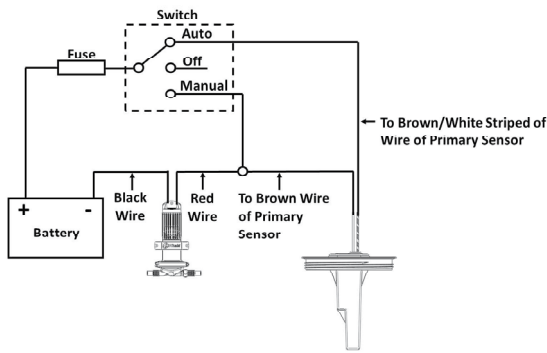
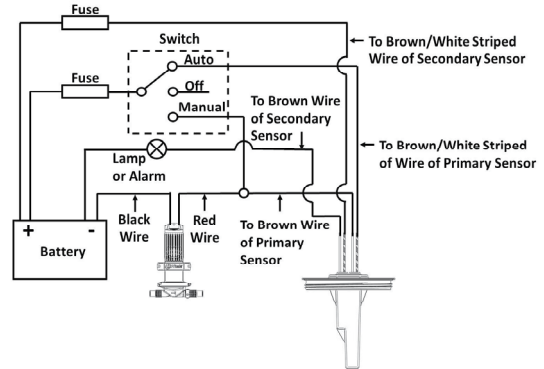

Figure 8A Wiring Diagram - for Single Sensor Models
Figure 8B Wiring Diagram - for Double Sensor Models
- **WARNING:** Installation **must** be carried out by a qualified electrician. Improper wiring can cause a fire resulting in injury or death. Suggested wiring information (Figure 8A and Figure 8B) is given as a guide only, and wiring **must** comply in accordance with the applicable electrical standards. Appropriate size fuses or circuit breakers **must** be installed.
Step 4: Wiring: See Figure 8A or Figure 8B.